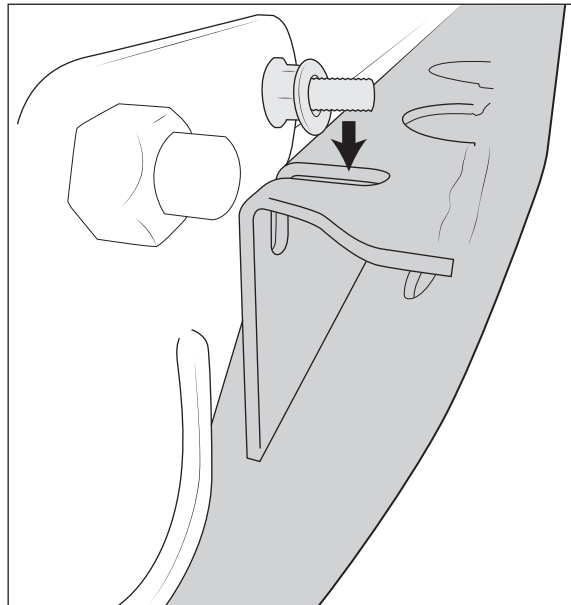

Figure 19
- D. Lift front of skidplate so M12x55mm bolts in front cross-member pass through slots in skidplate bracket. Loosely install M12 flange nuts onto both bolts to hold skidplate up (fig. 19).